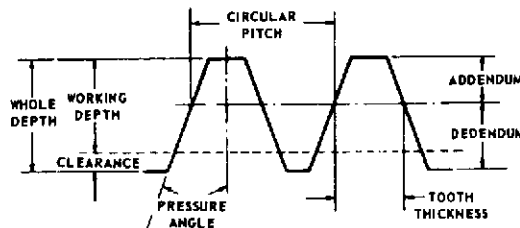

FIGURE 1.11 — BASIC RACK (NORMAL PLANE)
- 1.26 **Addendum** is the height by which a tooth projects beyond the pitch circle or pitch line; also, the radial distance between the pitch circle and the addendum circle. (Figure 1.11)
- 1.27 **Dedendum** is the depth of a tooth space below the pitch circle or pitch line; also, the radial distance between the pitch circle and the root circle. (Figure 1.11)
- 1.28 **Clearance** is the amount by which the dedendum in a given gear exceeds the addendum of its mating gear. (Figure 1.11)
- 1.29 **Working Depth** is the depth of engagement of two gears; that is, the sum of their addendums. (Figure 1.11)
- 1.30 **Whole Depth** is the total depth of a tooth space, equal to addendum plus dedendum, also equal to working depth plus clearance. (Figure 1.11)